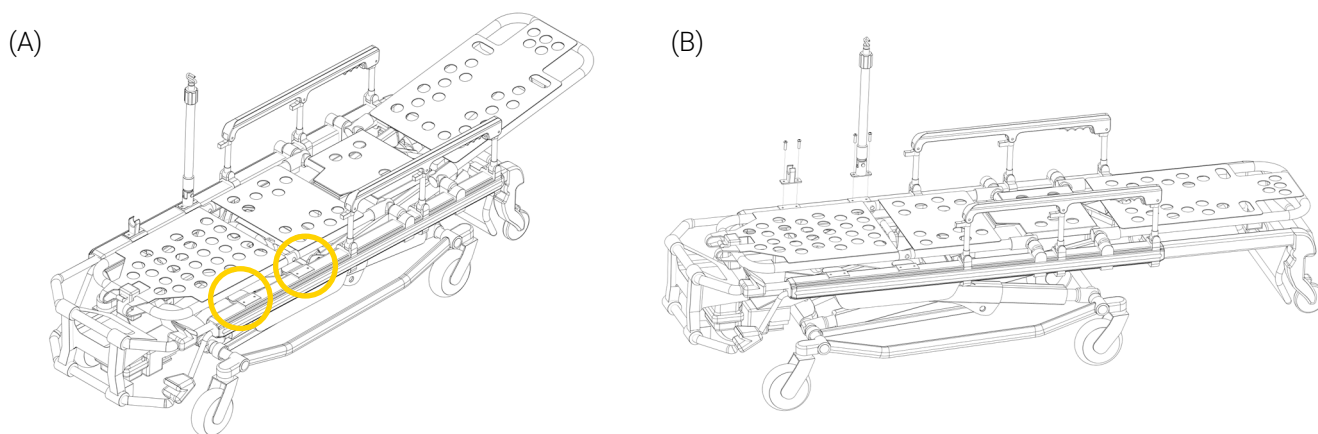

Figure 22: Preparing the stretcher
3. Remove the four (4) screws on the lateral frame of the stretcher, patient left (Figure 22 A). The screws will not be reused for this specific installation.
4. Remove the IV pole and its holder (Figure 22 B). They will not be reused for this specific installation.